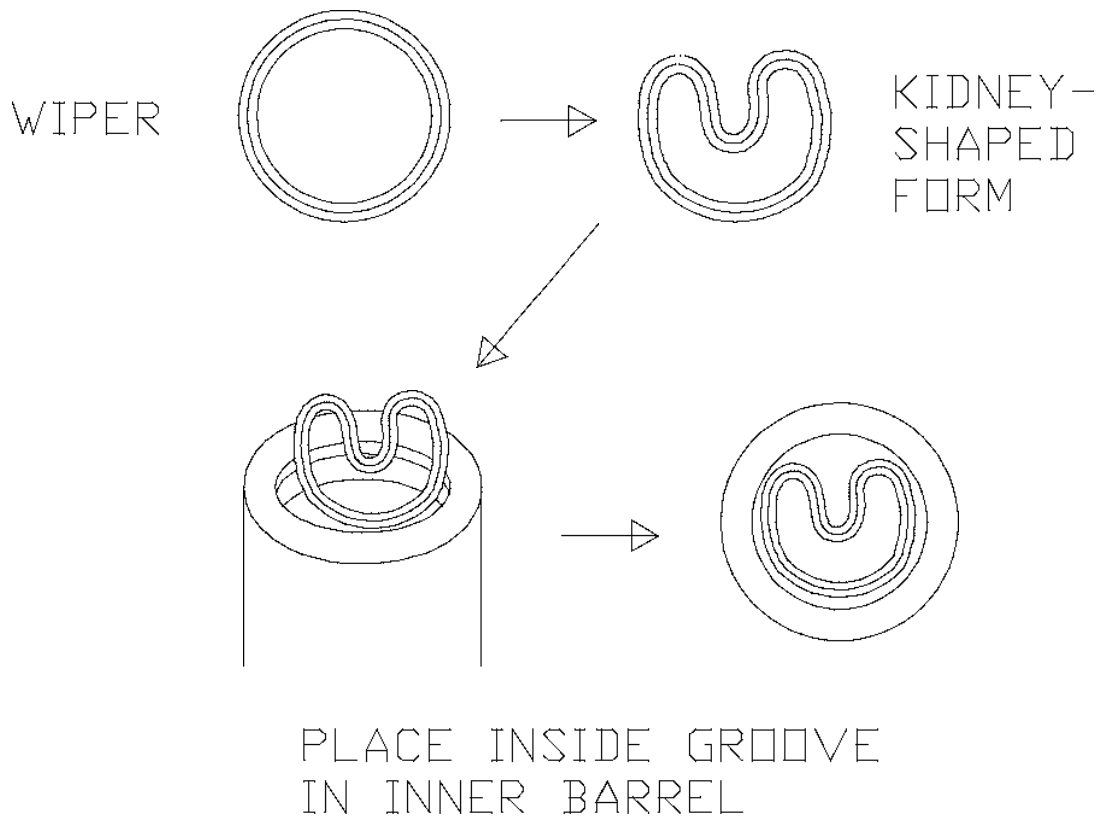

Fig. 15
Internal wiper, (see figure 15 drawing in section 7.1.3).
6. Form the wiper into a kidney shape without creating any sharp bends, fig. 15.
7. Place the "deformed" wiper in the groove over the O-ring, and make sure the orientation is correct, with the pointed (cleaning) side of the wiper facing out of the inner barrel as per fig. 15.